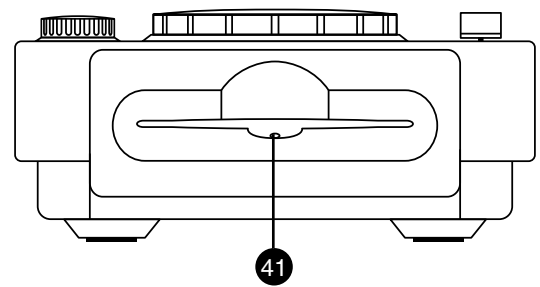

Figure 5
37. HEADPHONE VOLUME CONTROL - This knob will control the volume output level of the **HEADPHONE JACK (36)**.
C. FRONT PANEL (FIGURE 5)